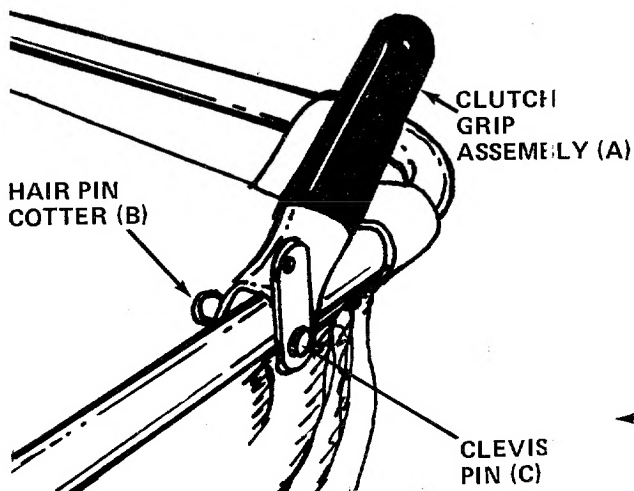

FIGURE 9
6. Assemble the clutch grip (A) to the left hand side of upper handle. Secure in place with clevis pin (C) and hair pin cotter (B). See figure 9. Head of clevis pin should be to the outside of handle.